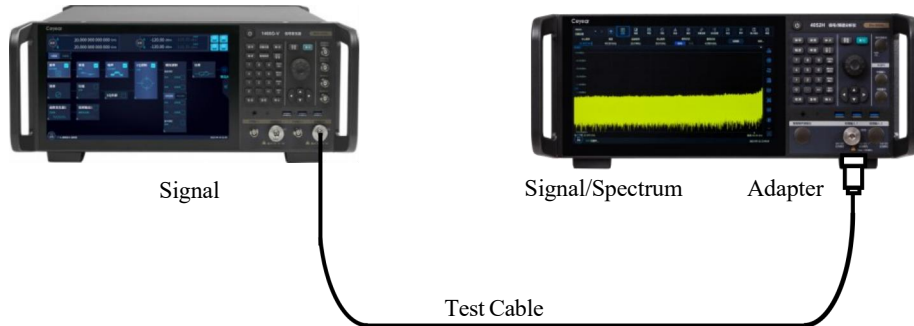

Figure 4.22 Harmonic distortion measurement connection settings
**Step 2. Connect the RF output port of the signal source to the RF input port of the analyzer, as shown in Figure 4.22:**